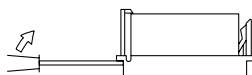

Fig. 3
(2) When sockets are mounted in close proximity, use a slotted screw driver as shown in Fig. 3.